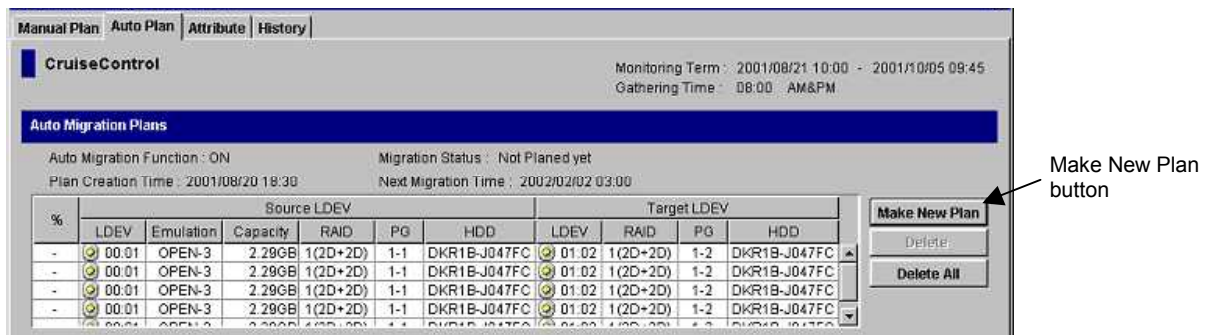

Figure 5.13 Make New Plan Button in Auto Plan Tab
2. In the **Auto Plan** tab, click the **Make New Plan** button (see Figure 5.13).